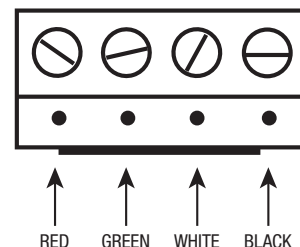

Figure 8. OASIS Wifi Wiring
2. Connect the Black, White, Green, and Red wires as shown in (Figure 8).